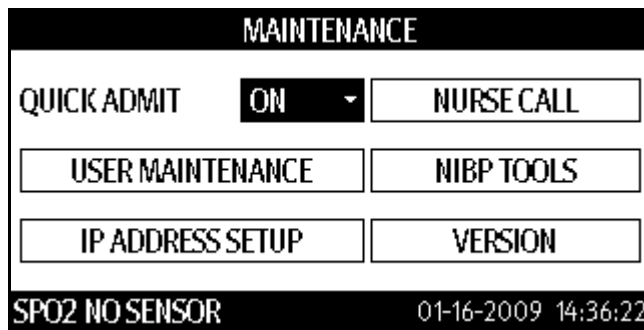

FIGURE 3-8 MAINTENANCE dialog
3. Once **MAINTENANCE** is highlighted, press  (18) to display the MAINTENANCE dialog as shown in FIGURE 3-8.